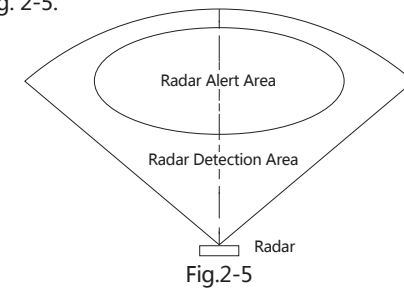

Fig.2-5
- ① Radar is installed in front of the detection area and aligns with the center of alert area, as shown in Fig. 2-5.